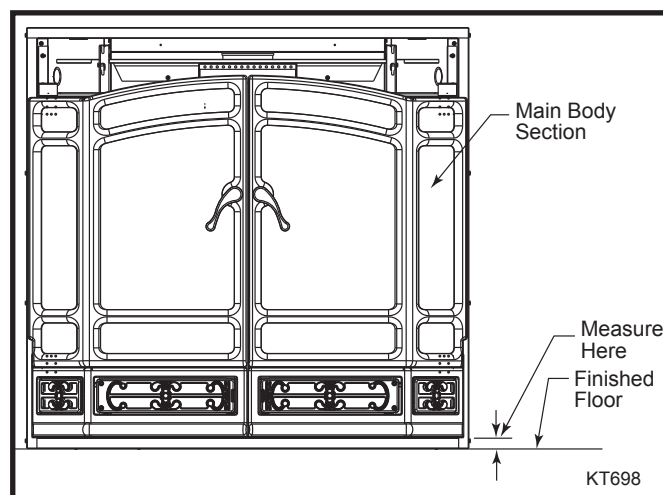

Fig. 5 Measure from underside of bay to finished floor.
2. Measure the underside of the bay to the finished floor. (Fig. 5) This measurement will be used when adjusting the bottom flange.